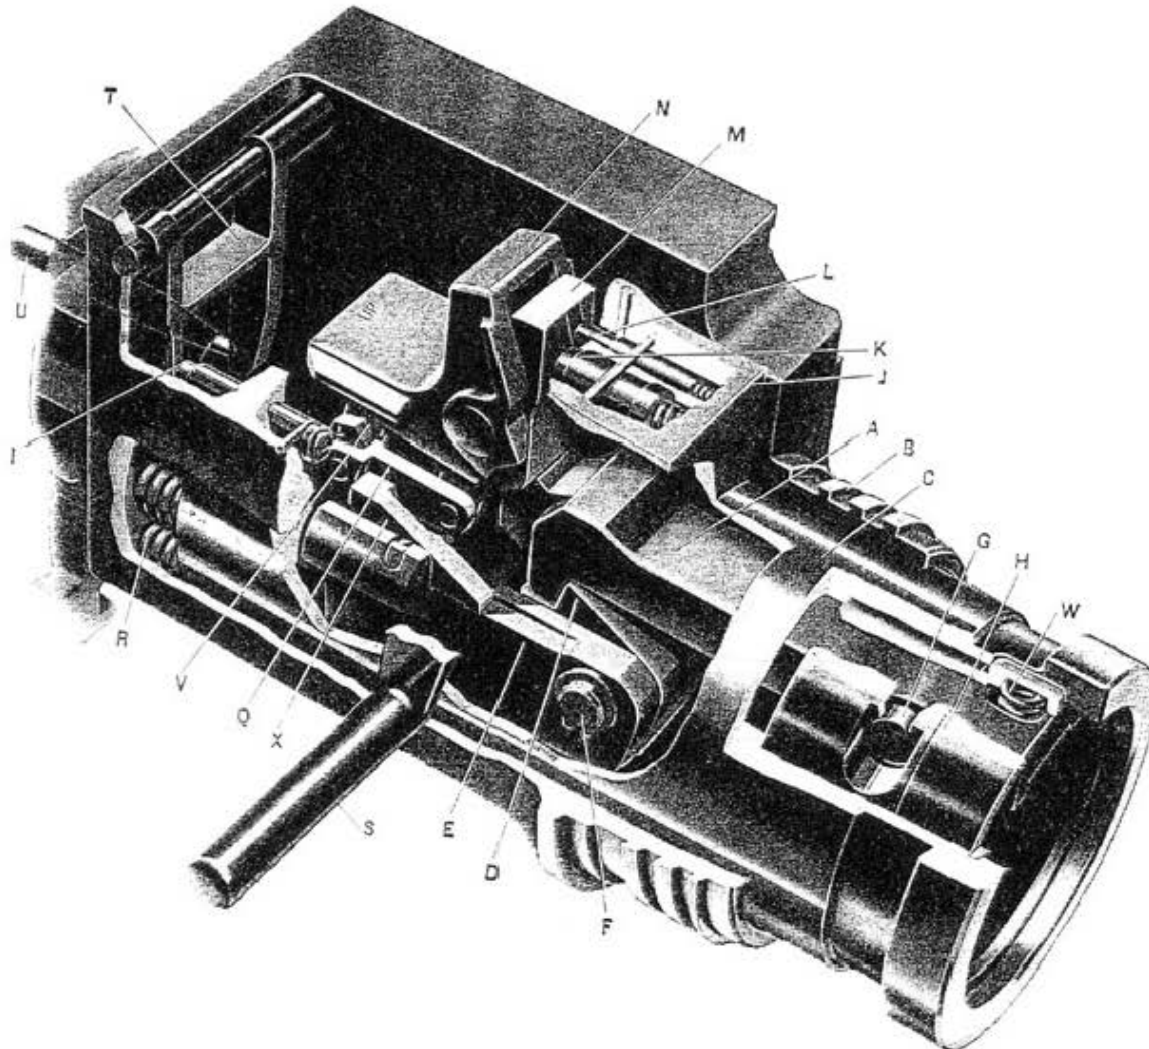
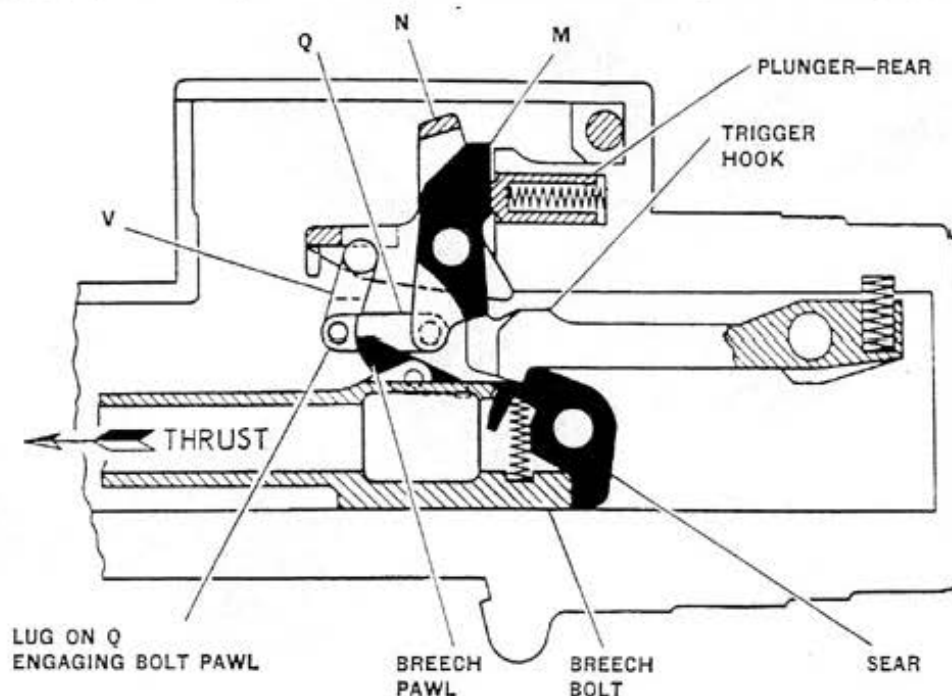

Figure 24—Trigger Mechanism In Cocked Position
Figure 25—Recoiling mass being held in a cocked position
The principal feature of the trigger group is that a trigger hook (A), Figure 24, mounted on the breech casing (B), (a non-recoiling part) can hook onto the recoiling sear (D) that is on the end of the breech bolt (E) and thereby hold the recoiling mass in the cocked position, Figure 24.
(B). The trigger hook automatically intercepts the recoil sear and holds the recoiling mass in the cocked position when the trigger is released or when the last round in the magazine has been fired, Figure 25. It is, therefore, unnecessary to recock by hand to resume firing or after changing magazines.
The recoiling mass is shown in Figures 24 and 25 held in the cocked position. The barrel springs are compressed and are tending to pull the breech block toward the muzzle (looking at Figures 24 and 25 this would be to the left). The recoil sear (D), Figure 24, is attached to the rear end of the breech bolt by an axis bolt (F).
1. The spring (W) at the end of the trigger hook (A), Figure 24, is exerting pressure on the end of the trigger hook (A) to lift the opposite end from the recoil sear (D).
2. There is an upward thrust on the trigger hook that is caused by the forward pull of the barrel spring acting on the inclined faces of the sear and trigger hook. This is illustrated in Figure 25.
In the cocked position, Figure 25, upward movement of the trigger hook is blocked by the lever (M). This lever forms the rear member of a parallelogram consisting of the following:
1. Parallelogram top lever (N), Figures 24 and 25.
2. Parallelogram front lever (V).
3. Parallelogram bottom levers (Q) (left and right).
4. Parallelogram rear lever (M).
The four corners of the parallelogram are formed by axis pins thus allowing the four levers to pivot on each other. The pin connecting the top and rear levers (N and M) is also mounted in the trigger casing, Figure 24.
As previously stated there is an upward thrust on the trigger hook that is caused by the forward pull of the barrel spring acting on the inclined faces of the sear and trigger as shown in Figure 25. This upward thrust combined with the pressure of the spring loaded parallelogram lever plunger, rear (K), Figure 24, tends to rotate parallelogram rear lever (M) counterclockwise and thus pull the bottom levers (Q) to the right. These bottom levers (Q), however, cannot go to the right because they are held to the left by the breech bolt pawls (X) bearing against the lugs, Figures 24 and 25, on the bottom levers (Q). There are two levers (Q) and they form the bottom levers of the parallelogram against which the right and left breech pawls (X), Figure 24, bear. These two breech pawls (X) are pivoted on the breech bolt (E), Figure 24. The full weight of compressed barrel springs on the breech bolt makes it impossible for the two levers (Q) to be pulled to the right and, therefore, prevents the trigger hook from disengaging.